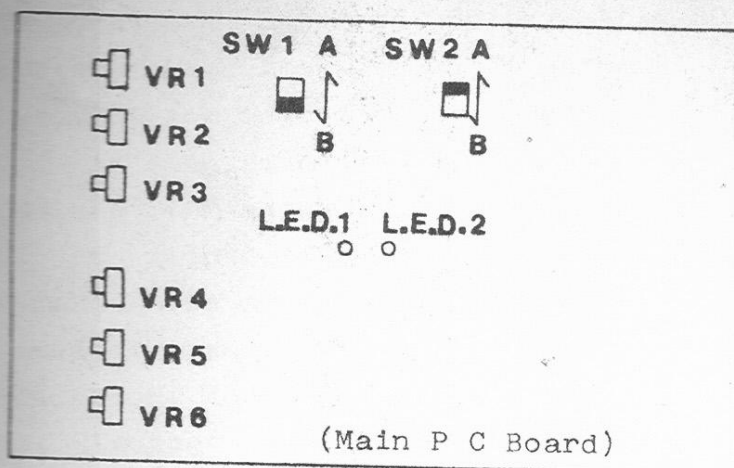

Fig. 4
7. Adjustments on Main P C Board (See Fig. 4)